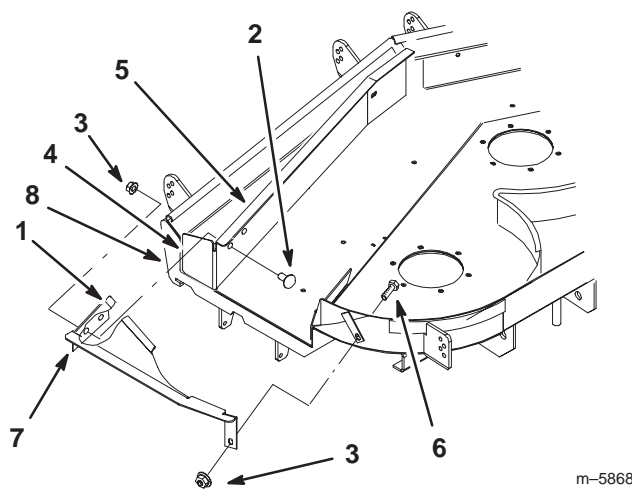

Figure 15
2. Place the center tunnel baffle between the front and rear tunnel baffles (Fig. 15).
3. Align the center tunnel baffle with the rear baffle tab and existing hole in mower. Secure baffle with the bolt (5/16 x 3/4 in.) and flange nut (5/16 in.) previously removed (Fig. 15).
4. Install the center tunnel baffle to the front tunnel baffle. The flange on the center baffle goes over and behind the front baffle (Fig. 15).
5. Secure the center tunnel baffle with 2 carriage bolts (5/16 x 3/4 in.) and 2 flange nuts (5/16 in.) (Fig. 15).